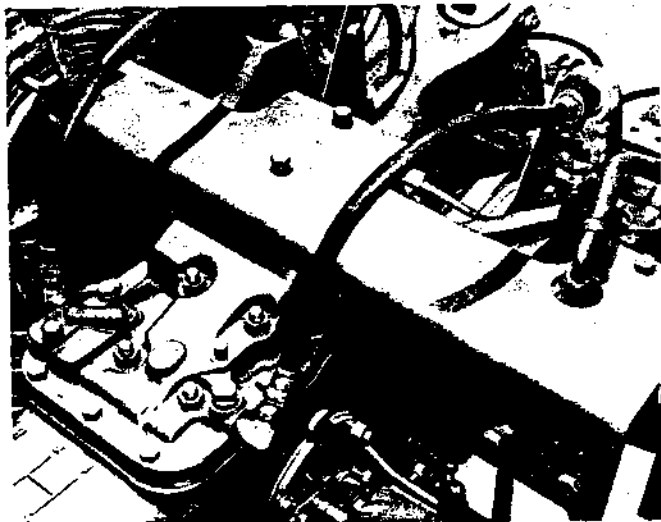

Fig. 11 — Hoses Attached to Pressure Ports
2. Attach hydraulic hose(s) to pressure port(s) on hydraulic lift cover. See (Fig. 11).